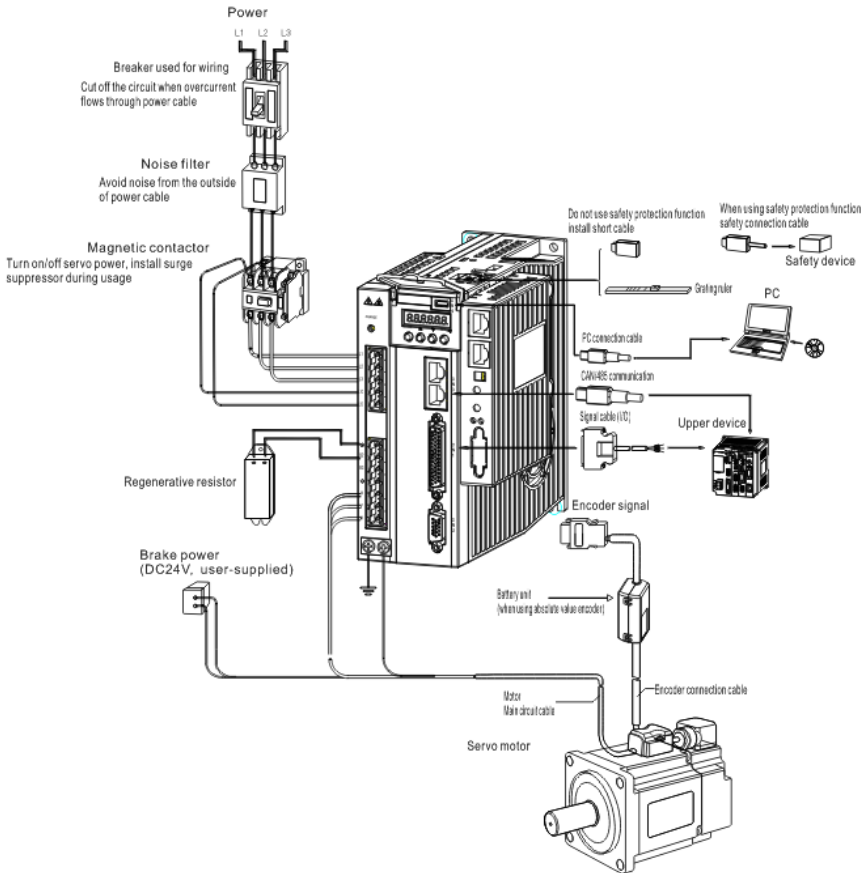

Figure 3-1 Wiring diagram between servo drive and external devices
- ◆ In the figure 3-1, the built-in regenerative braking resistor is used by default. If an external regenerative braking resistor is used, please refer to relevant wiring diagram. The regenerative braking resistor must be mounted on non-flammable materials, such as metal.